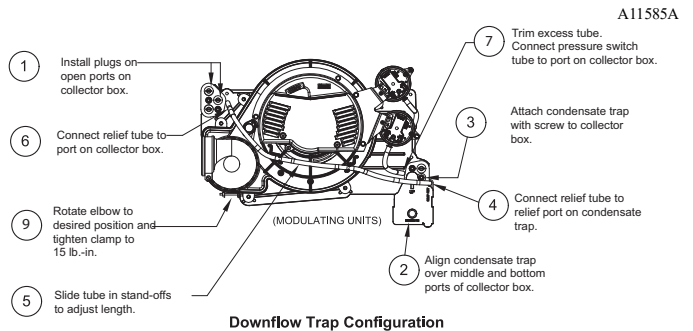

Fig. 8 – Downflow Trap Configuration
When the furnace is installed in the downflow position, the condensate trap will be initially located at the upper left corner of the collector box, as received from the factory. See the top image in Fig. 8. When the furnace is installed in the downflow orientation, the condensate trap must be relocated for proper condensate drainage. See the bottom image in Fig. 8.
- Fig. 8 shows the condensate trap and tubing before and after relocation. Refer to Fig. 8 To begin the trap conversion.